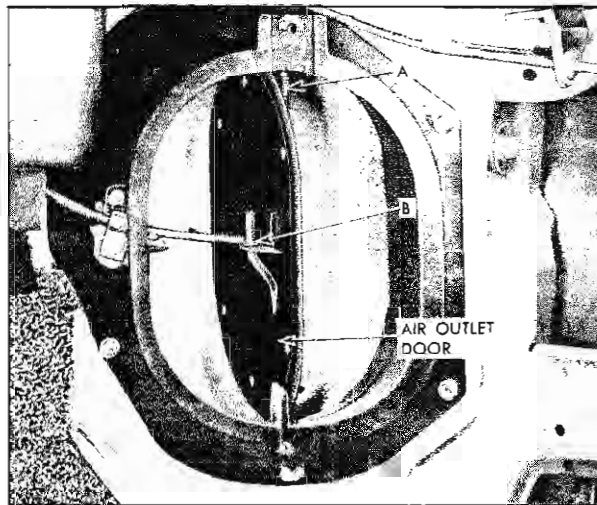

Fig. 2-14 Air Outlet Door
2. Remove screws securing outlet to shroud panel, disengage cable from pin, on door, and remove outlet. (Fig. 2-14).